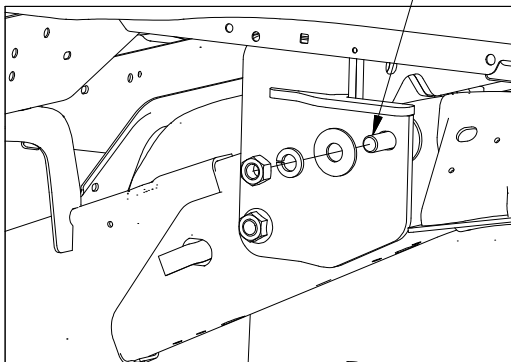

Figure H4: Looking at driver side frame.
- Secure side plate.** Push the longer 5/8" cap screw that is positioned in the frame, through the side plate. Secure it with a flat washer, lock washer, and nut, as shown in Figure H4.